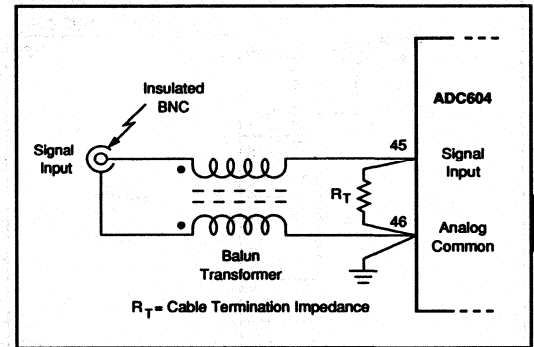

FIGURE 6. Floating-Input Balun Transformer.
13. Floating inputs can minimize ground-loop noise. A simple common-mode choke (balun) shown in Figure 6 and 7 or a differential amplifier (Figure 8 and 9) can reduce analog input noise.